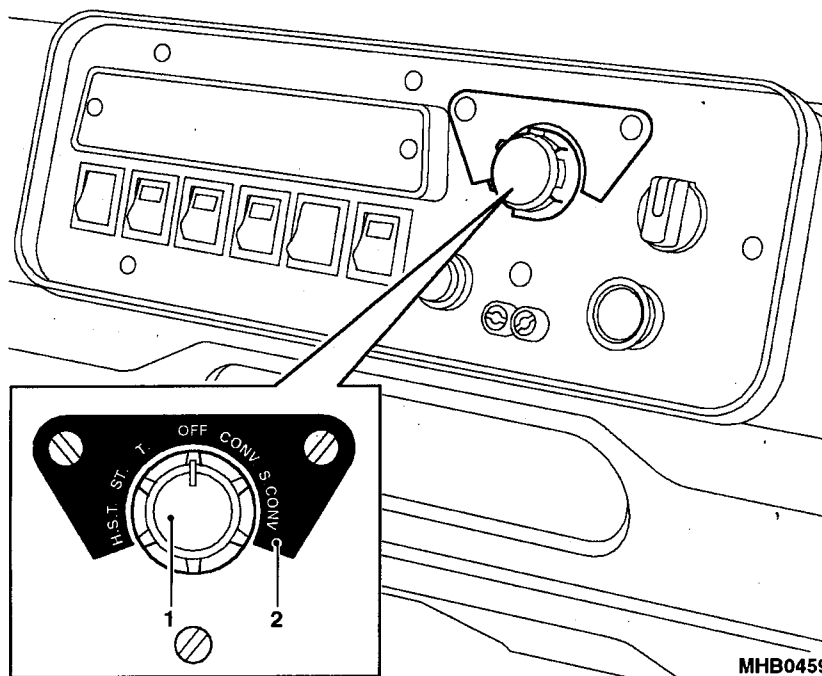

Fig 5 Six Way Main lighting switch
8 The six way main lighting switch (Fig 5 (1)) is located in the instrument console and has six positions. Fitted over the top of the switch is an indicator panel plate (2) which shows the individual positions as follows: